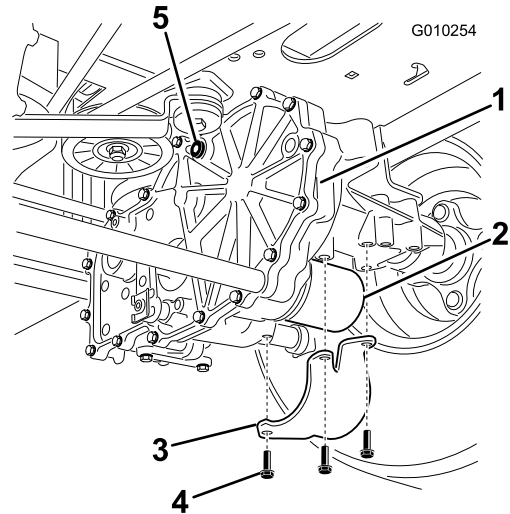

Figure 53
2. Locate the filter and guards on each transaxle drive system (Figure 53). Remove three screws securing the filter guard and guard.